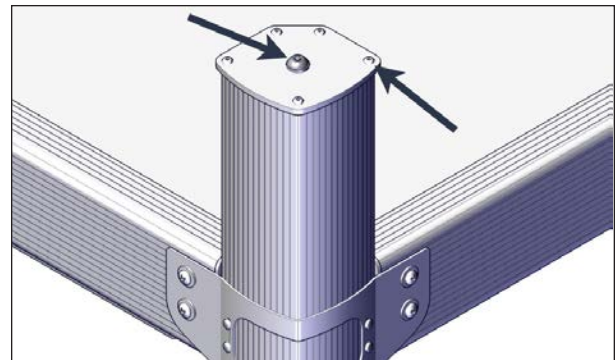

FIGURE 87: SCREW REMOVAL
3. Dismount the screws (5) on the top plate of the posts, see Figure 87.
4. Remove the center screw. Keep the top plates and the screws in a safe location see Figure 87.